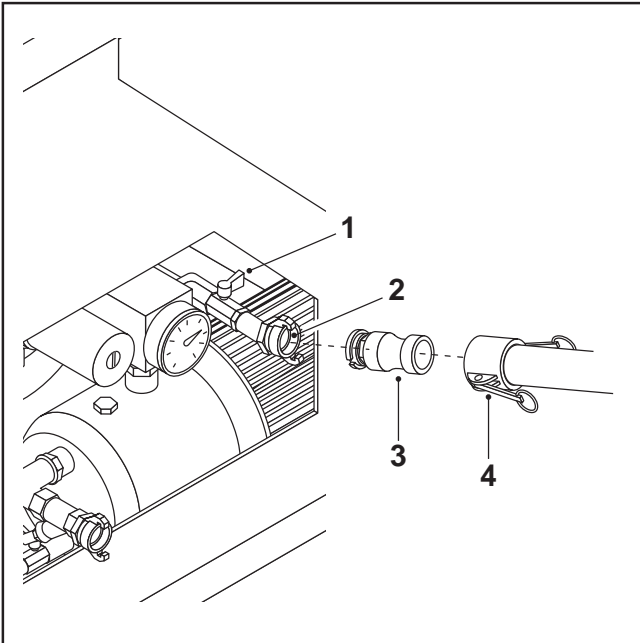

FIG.28
- Connect the water-mortar fitting (FIG.28-REF.3) to the quick-release coupling (FIG.28-REF.2) of the auxiliary cock connecting the pipe to it (FIG.28-REF.1).
- open the auxiliary cock (FIG. 28-REF. 1)